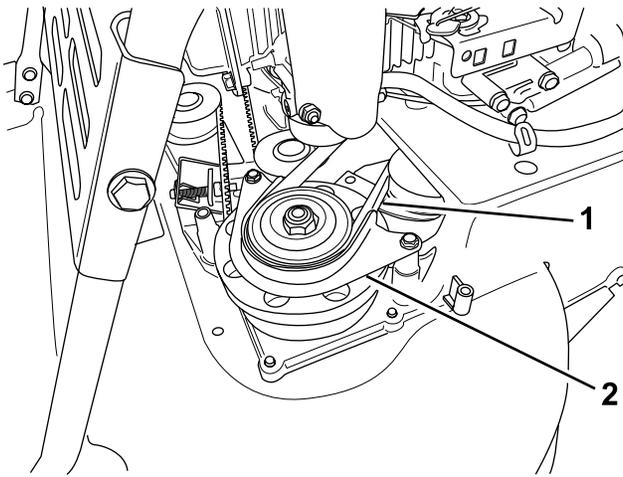

Figure 46
- 7. Remove the BBC belt guard (Figure 46).